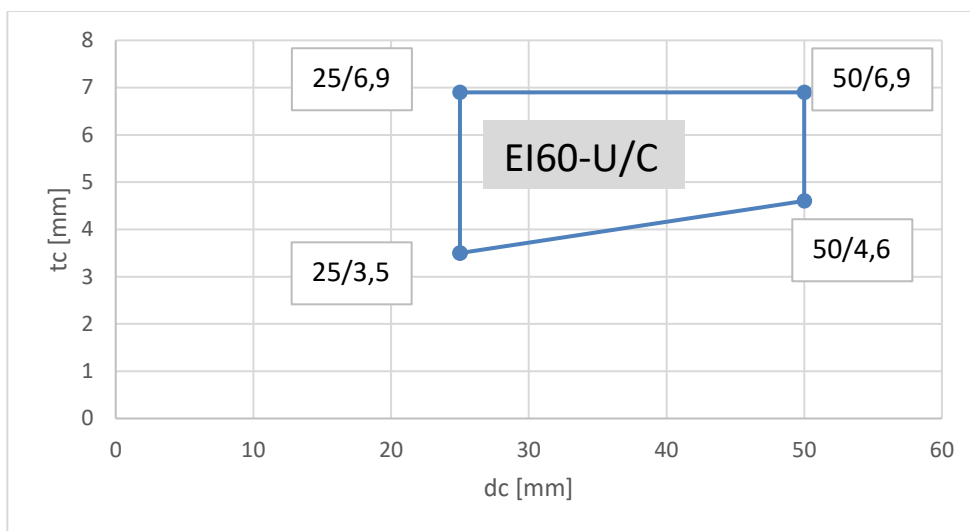

Figure 48: Classified range for PP-RCT pipes, sealed with CFS-B in CFS-CT HDB
Classification given in Figure 48 is valid for:
- For dimension refer to Figure 48